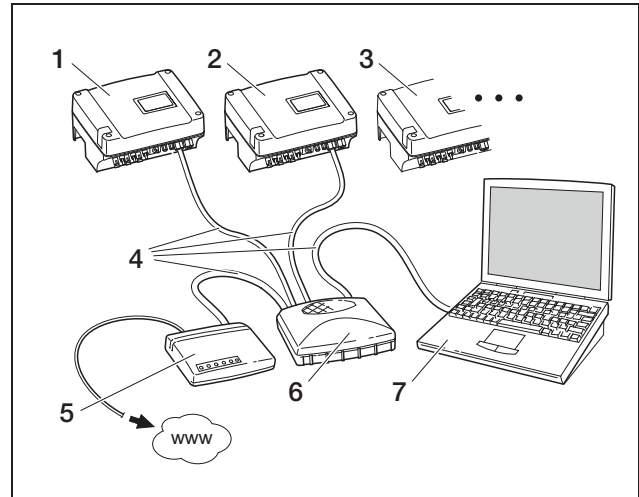

Fig. 77: Communication board I:
- Or you operate the inverter through a DSL connection with router and wish to connect to the inverter remotely via the router (figure 77 or 78).